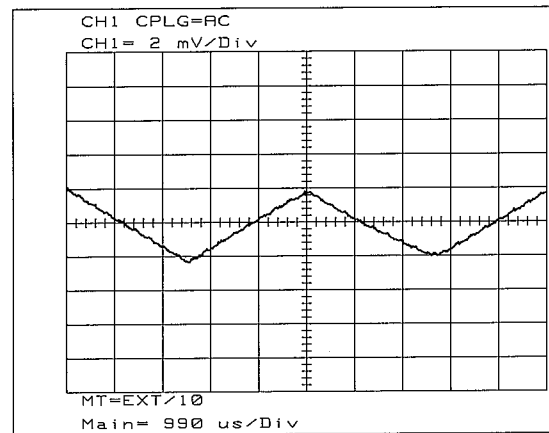

Figure 3-6 R408 needs adjustment
8. Adjust A32**R408** to remove sharp spikes in the scope waveform as shown in figure 3-6. These spikes may protrude up or down, depending on which way the adjustment is off.